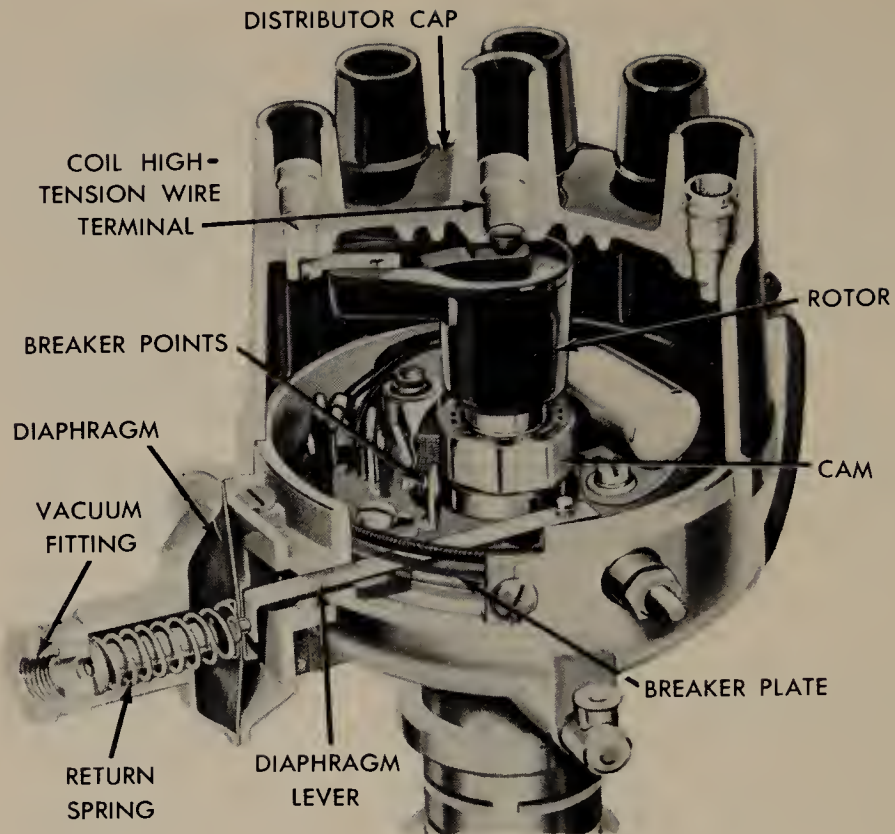

FIGURE 7.28 Cutaway view of distributor showing construction of vacuum advance mechanism. (Ford Motor Company.)
7.18 Vacuum Advance. When the throttle is only partly open, a partial vacuum develops in the intake manifold. This means that less air-fuel mixture enters the cylinder, and it will be less highly compressed. The mixture will burn more slowly. To get full power from the charge, the spark should be somewhat advanced. This would give the mixture ample time to burn and deliver its power to the piston. One type of vacuum advance mechanism is shown in Fig. 7.28. The device has a spring-loaded diaphragm connected through linkage to the distributor breaker plate. The spring-loaded side of the diaphragm is airtight and is connected through a tube to an opening in the carburetor air horn (Fig. 7.29). When the throttle is opened, it moves past this opening so that intake-manifold vacuum can act on the diaphragm. The diaphragm is therefore forced to move against the